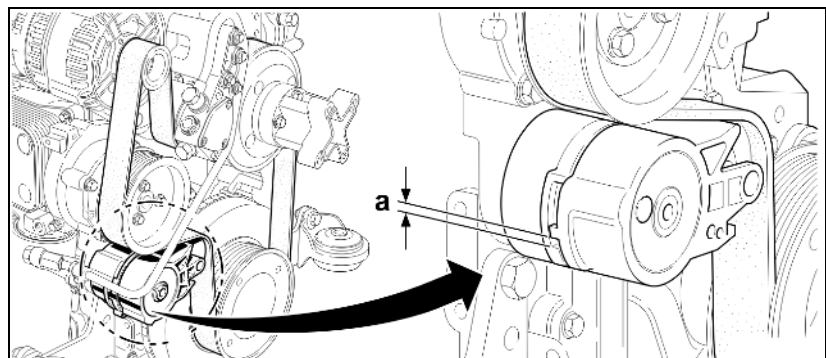

Fig. 169
1. Setup a collecting tray under the sealing bolt (Fig. 169/1).